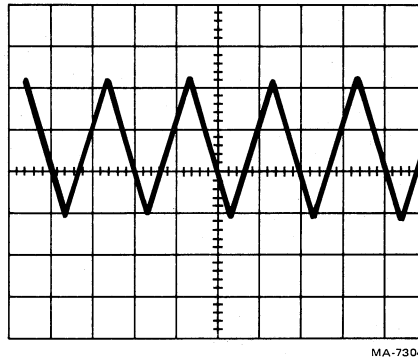

Figure 6-34 Normal Read Head Output While Reading
- e. Place MIA switch S1 to the forward (right) position. The waveform on the scope should be sinusoidal, similar to that shown in Figure 6-34.